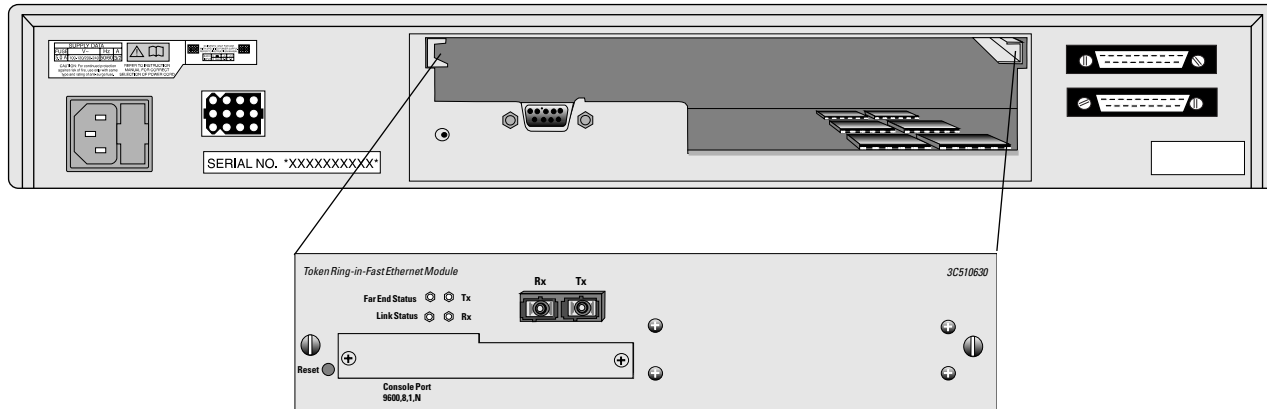

Figure 3-1 Installing the TR-in-FE Module
- 3 Locate and remove the blanking plate that covers the switch Module slot. See Figure 3-1. Retain the blanking plate and the screws for future use.
- 4 Use the guide rails within the Switch slot to align the TR-in-FE Module. The location of the guide rails and the correct positioning of the plate is shown in Figure 3-1.